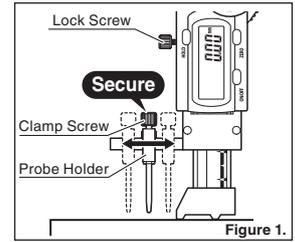

Figure 1.
- ① Turn on the Gauge, and loosen the Lock Screw.
- ② Position the probe tip for the desired measurement, and tighten the Clamp Screw (Model GDG-4F-J1). (Figure 1.)